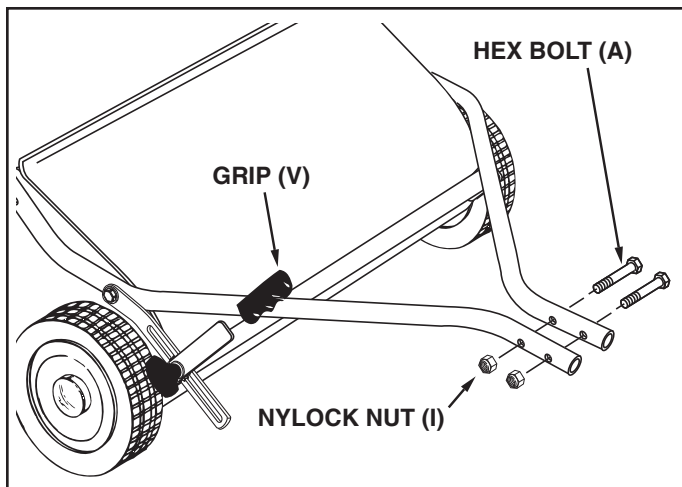

FIGURE 8
- Fasten the hitch tubes together using two hex bolts (A) and nylock nuts (I). See figure 8. **Do not tighten yet.**
- Assemble the grip (V) onto the end of the height adjustment handle as shown in figure 8.